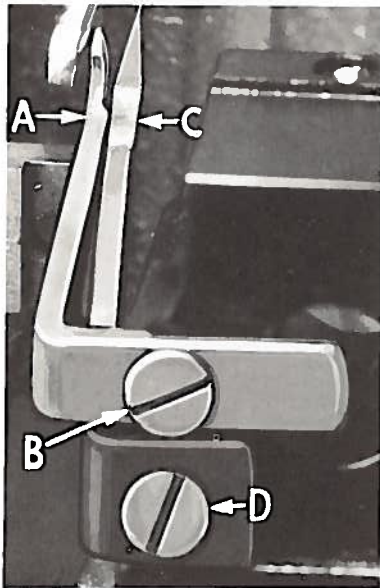

Fig. 5
Set rear needle guard (A, Fig. 5) as high as possible, without interfering with either lower looper or movement of lower knife holder, but still in position to deflect needle forward .002-.004 inch. Screw (B) is used to set rear needle guard. Make sure there is no interference between rear needle guard and lower looper.
Assemble front needle guard (C, Fig. 5). When lower looper is springing needle off back guard, set front needle guard as close as possible to needle without touching. Screw (D) is used to adjust and set front needle guard. After this setting make sure there is no interference between needle guards and differential feed dog.